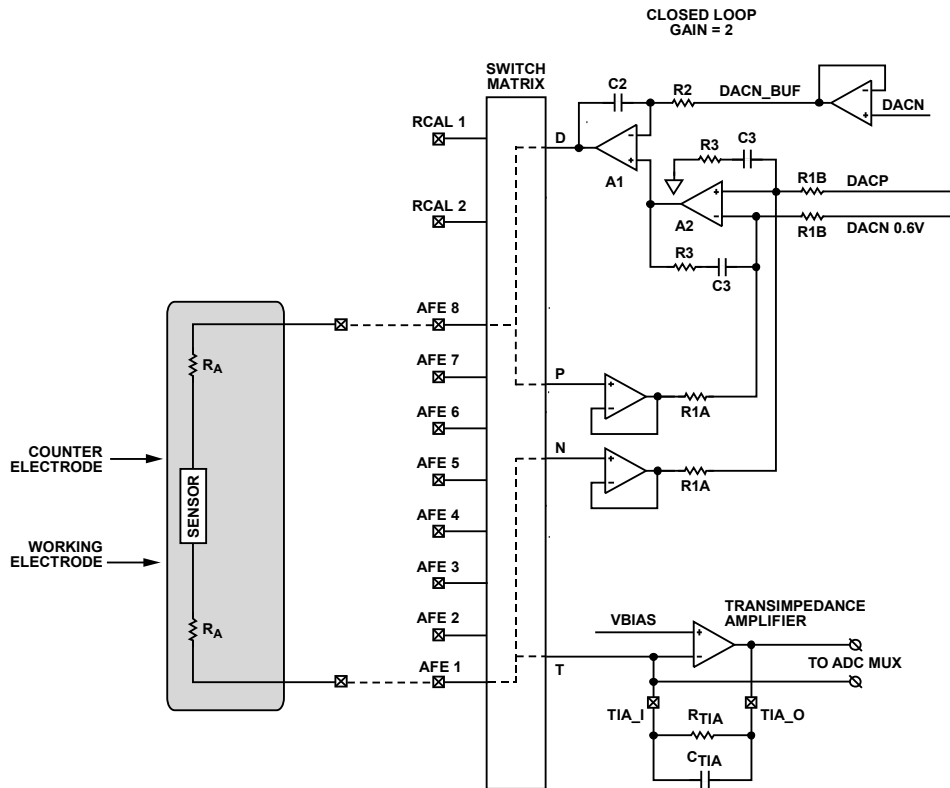
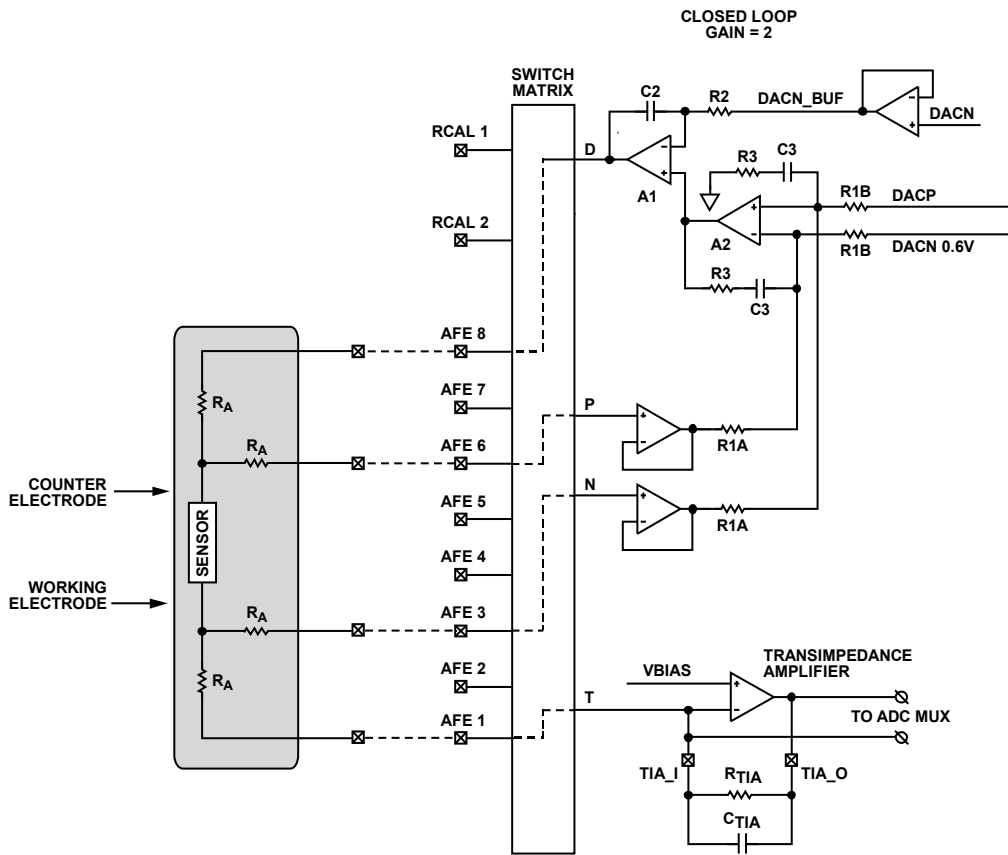

Figure 86. AFE Excitation Loop Block Diagram, 2-Wire Configuration
Figure 87. AFE Excitation Loop Block Diagram, 4-Wire Configuration
In this section, an overview of the analog front-end excitation loop is outlined. See Figure 86 and Figure 87 for block diagrams of the loop. The AFE excitation loop consists of an excitation buffer amplifier loop, transimpedance amplifier (TIA), and switch matrix. The switch matrix is a programmable interface with an external sensor configuration and a calibration resistor. Typically, a calibration resistor has two functions:
In Figure 86, a sensor is hooked up in a 2-wire sensor configuration. For 2-wire or 3-wire sensor configurations, the P and N sense lines can be tied internally through the switch matrix.
- This signal is then gained by two in the excitation loop stage, Amplifier A1, in Figure 86.
Consider a 4-wire configuration, as shown in Figure 87. The sensor is being sensed differentially by the P and N nodes. Both P and N are fed back into the feedback loop of the excitation stage through an instrumentation amplifier using AFE 6 (Switch P6 closed) and AFE 3 (Switch N3 closed). The excitation buffer forces the output voltage on D to be equal to the differential voltage across the sensor, P – N. Both P and N switches are very high input impedance, which guarantees no current flows in sense lines. The common mode of the system is still set by the positive terminal of the TIA, VBIAS of 1.1 V by default.